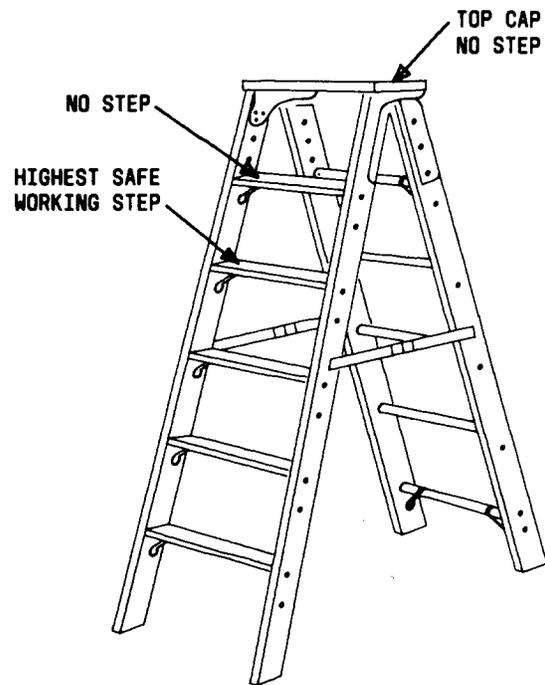

Fig. 2—E Stepladder
2.04 The E stepladder (Fig. 2) is available in 3-1/2, 5, 6, 8, 10, and 12 foot sizes and can be used as a general purpose ladder.